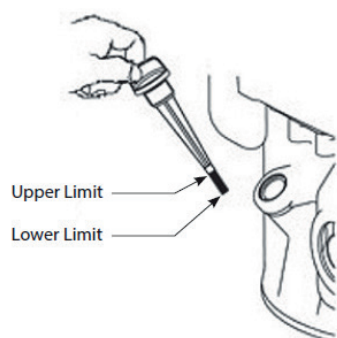

Figure 3
6.3.4 When oil level is full, the oil will be at upper limit on dipstick, (See Figure 3)
6.3.5 If the oil level near or below the lower limit mark on the dipstick (see Figure 3), add oil slowly and recheck until oil level reaches upper limit of dipstick, DO NOT overfill.